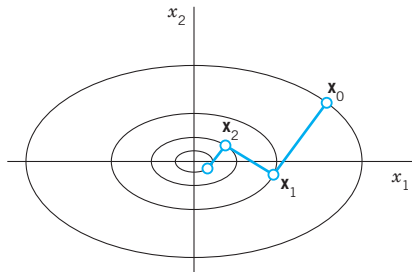

Fig. 473. Method of steepest descent in Example 1
Starting from $x_0 = 6\mathbf{i} + 3\mathbf{j}$, we compute the values in Table 22.1, which are shown in Fig. 473.
Figure 473 suggests that in the case of slimmer ellipses (“a long narrow valley”), convergence would be poor. You may confirm this by replacing the coefficient 3 in (4) with a large coefficient. For more sophisticated descent and other methods, some of them also applicable to vector functions of vector variables, we refer to the references listed in Part F of App. 1; see also [E25].